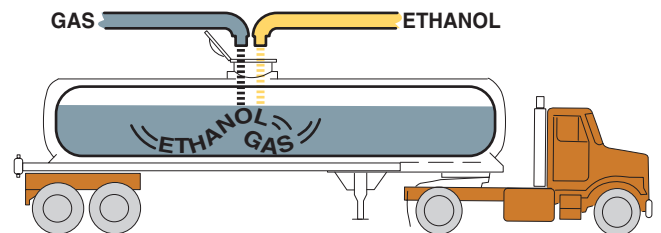

FIGURE 5-13 Sequential blending uses a computer to calculate the correct ratio as well as the prescribed order in which the products are loaded.
2. **Sequential blending.** This method is usually performed at the wholesale terminal and involves adding a measured amount of ethanol to a tank truck followed by a measured amount of gasoline. ● **SEE FIGURE 5-13.**